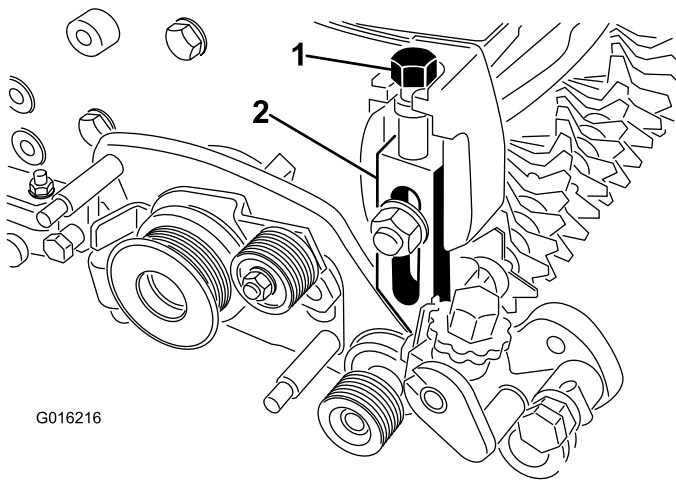

Figure 10
21. Thread the height-of-cut adjusting screw into the top of the right-hand adjuster-arm assembly (Figure 10).
22. Install the right-hand adjuster-arm assembly to the cutting-unit side plate using the existing plow bolt, nut, and new washer. Make sure that the rod end of the height-of-cut arm assembly slides into the bushing in the hole in the groomer drive assembly (Figure 10).
25. Thread the height-of-cut adjusting screw into the top of the left-hand adjuster-arm assembly (Figure 10).
27. Install the left-hand adjuster-arm assembly to the cutting-unit side plate using the existing plow bolt, nut, and new washer (Figure 10).